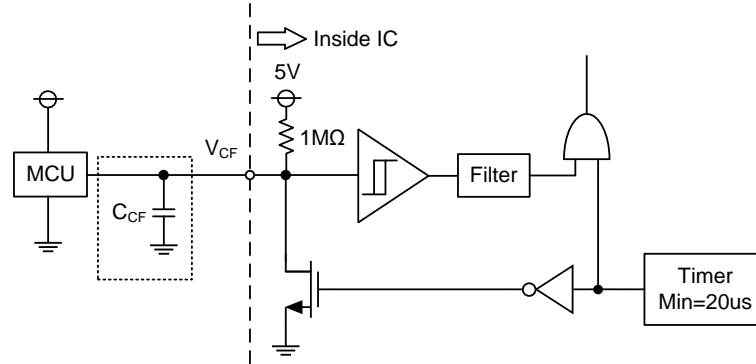

Figure 1. V_{CF} Output Circuit
- Fault output signal V_{CF} becomes low when one of protections OT, SC or UVLO is triggered. When failures happen like UV or OT, V_{CF} keeps low continuously until recovering from UV or OT state. $20\mu\text{s}$ indicates min. fault output duration time without pull-down capacitor. It can be controlled by the capacitor value as shown in Figure 1.
- (1) If the control GND is connected with the power GND by common broad pattern, it may cause malfunction by power GND fluctuation. It is recommended to connect the control GND and power GND at a point (N1), near the terminal of shunt resistor.
- (2) A zener diode D1 (20V/1W) is recommended between each pair of control supply pins to prevent surge destruction.
- (3) Prevention of surge destruction can further be improved by placing the bus capacitor as close to pin P and N1 as possible. Generally a 0.1~0.22μF snubber capacitor C3 between the P-N1 terminals is recommended.
- (4) Selection of the R1*C4 filter components for short-circuit protection is recommended to have tight tolerance, and is temperature-compensated type. The R1*C4 time constant should be set such that SC current is shut down within 2μs; (typically 1.5~2μs). R1 and C4 should be placed as close as possible to the C_{SC} pin. SC interrupting time may vary with layout patterns and components selections, therefore thorough evaluation in the system is necessary.
- (5) It is recommended that all capacitors are mounted as close to the IPM as possible. (C1: electrolytic type with good temperature and frequency characteristics. C2: ceramic type with 0.1μF, good temperature, frequency and DC bias characteristics).
- (6) To prevent malfunction, the layout to each input should be as short as possible. When using the RC coupling circuit (R: 100Ω, C: 1nF), place it as close to the IPM input pins as possible, and make sure the input signal levels meet the required turn-on and turn-off threshold voltages.
- (7) The V_{CF} pin can provide the fault output signal with the fixed or adjustable pulse width. If the V_{CF} pin is left, the pulse width is fixed at minimum 20us. If a capacitor C5 is connected, the pulse width can be adjusted according to the capacitor value. For the design guide, please refer to the Figure 1.